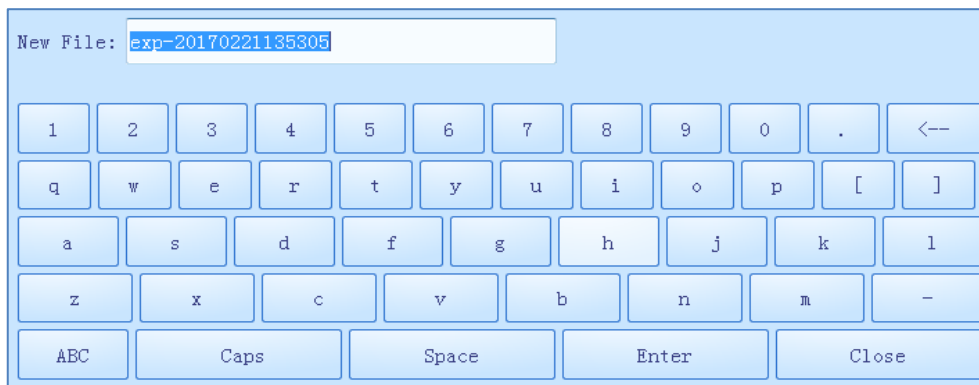

Figure E-2.4. Experiment File Tab - Keyboard
- ⚠ **Reminding:** the system will pop up a keyboard for user to name the new experiment file or file folder, as shown in figure E-2.4. User can press < **Close** > to exit the keyboard.